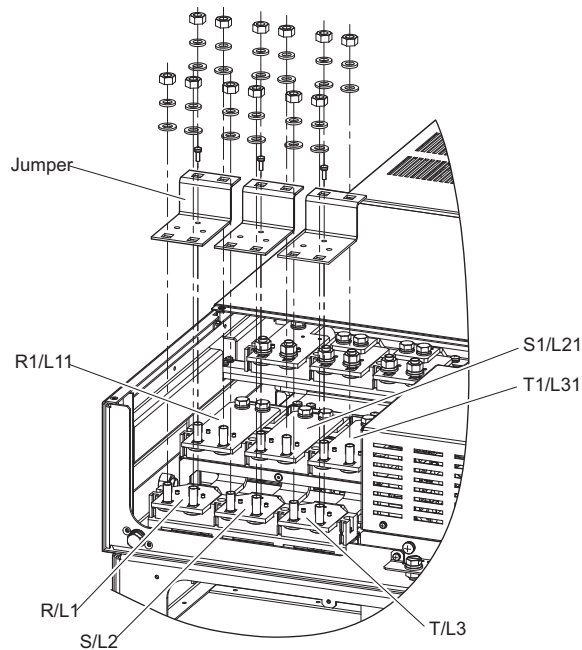

Figure 3.2 Removing the jumper
- Remove M5 screws and then jumpers to operate with 12-phase rectification as shown in *Figure 3.2*.